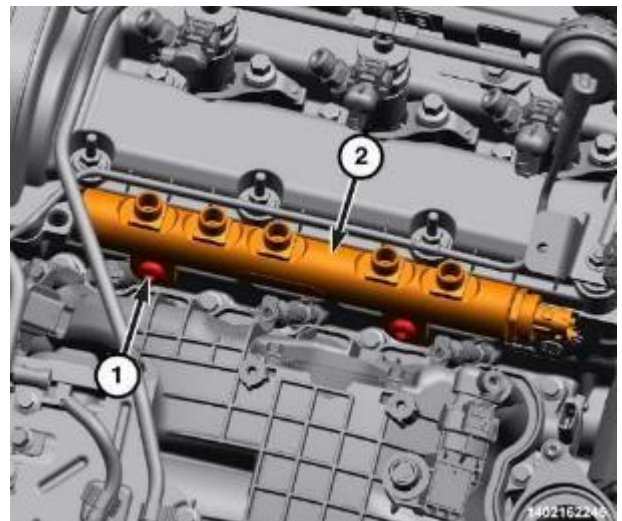

Figure 35 – Right Fuel Rail Bolts
- 66. Using the Remover-Installer, Fuel Rail Bolt 2025400090 remove the bolts (1) and the right fuel rail (2) (Figure 35).